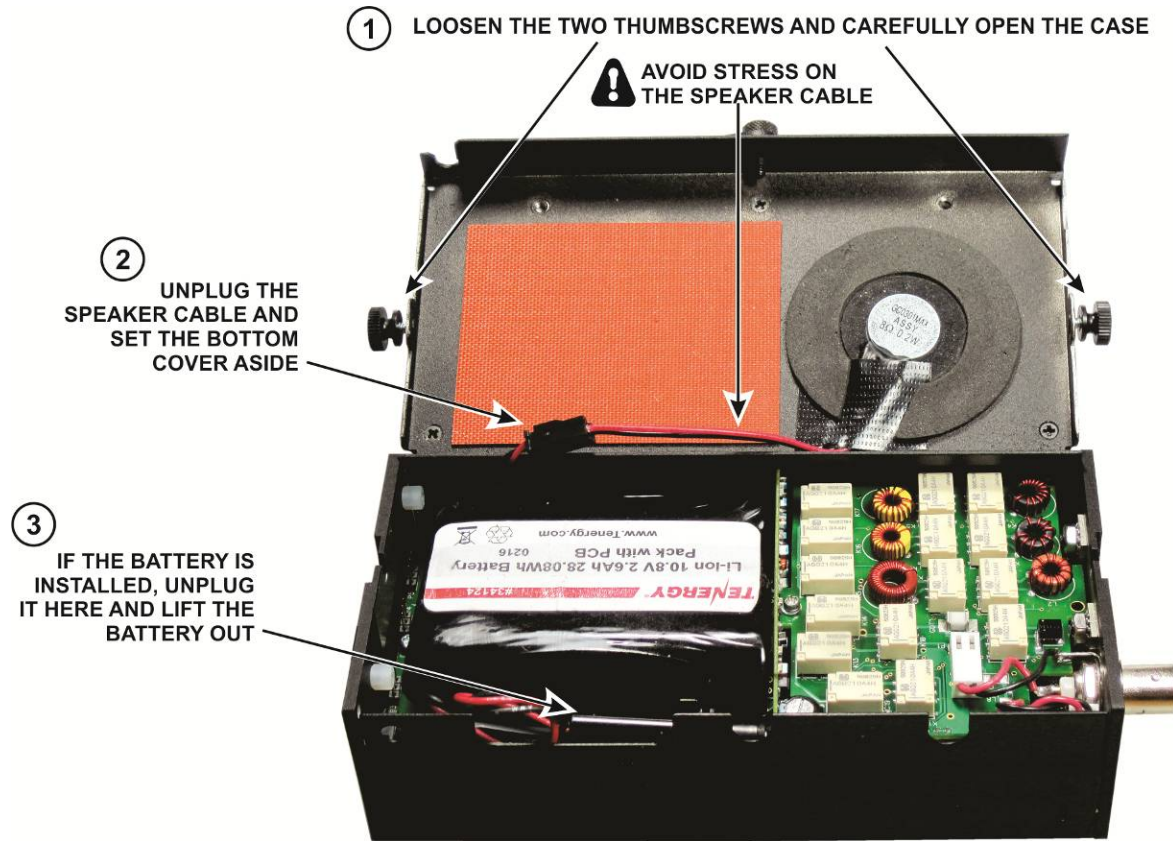

Figure 1. Removing the KX2 Bottom Cover.
With the KX2 face down, loosen the two thumb screws and carefully remove the bottom cover as shown in Figure 1. Take care to avoid pulling on the cable leading to the speaker.
- If used, replace the internal battery and plug it in as shown in Figure 1 on page 2.